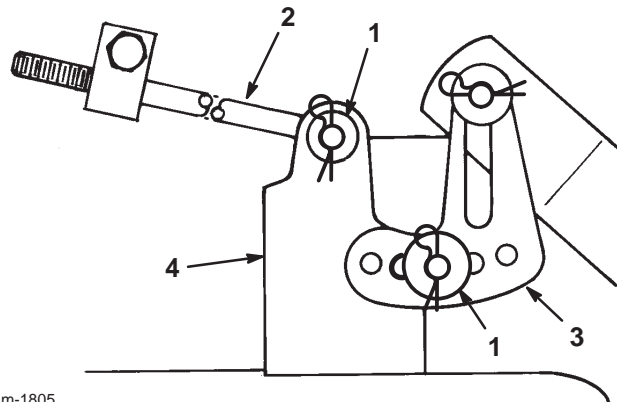

Figure 37
15. Remove the hairpin cotter and washer at the top of the mower leveling bracket (Fig. 37).
17. Remove the hairpin cotter and washer from the end of the long rod (Fig. 37). Slide the rod out of the mower mount. Repeat this step on the opposite side of the mower.